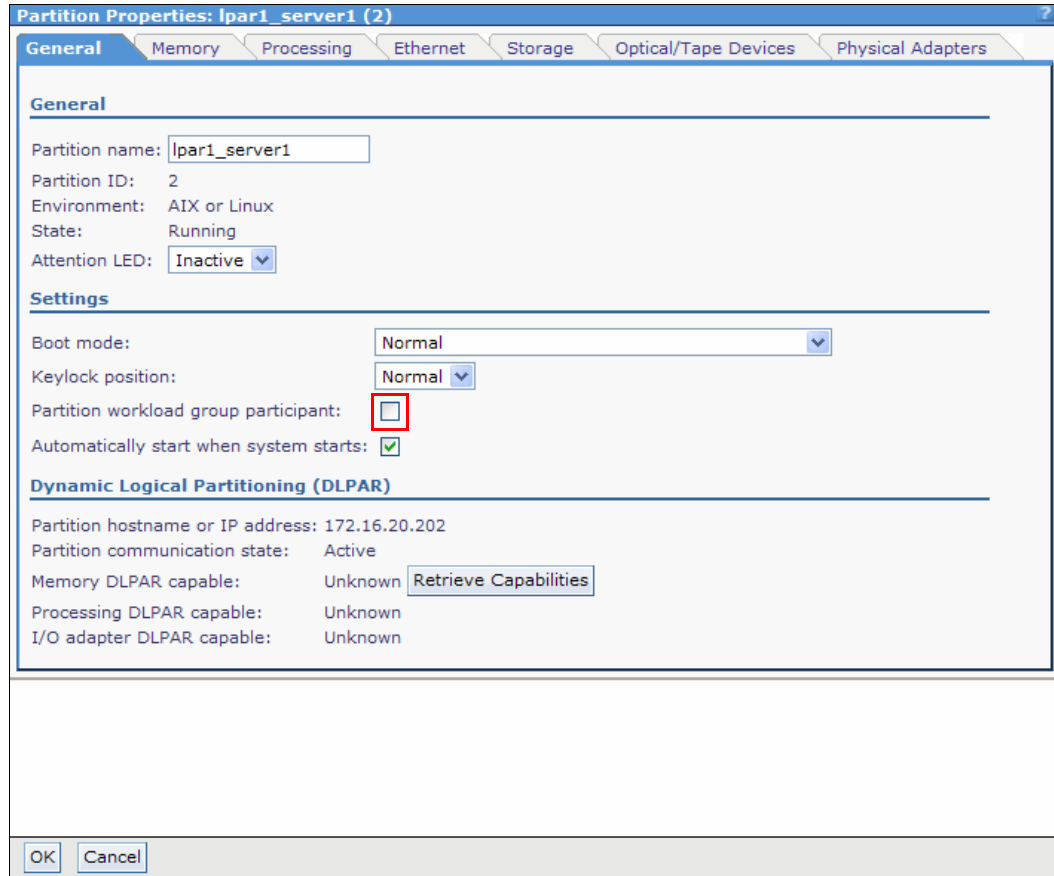

Figure 4-74 Partition Properties: selecting the partition workload group
1. Select the logical partition that you want to include in the partition workload group and click **Properties**. The Partition Properties window opens (Figure 4-74).